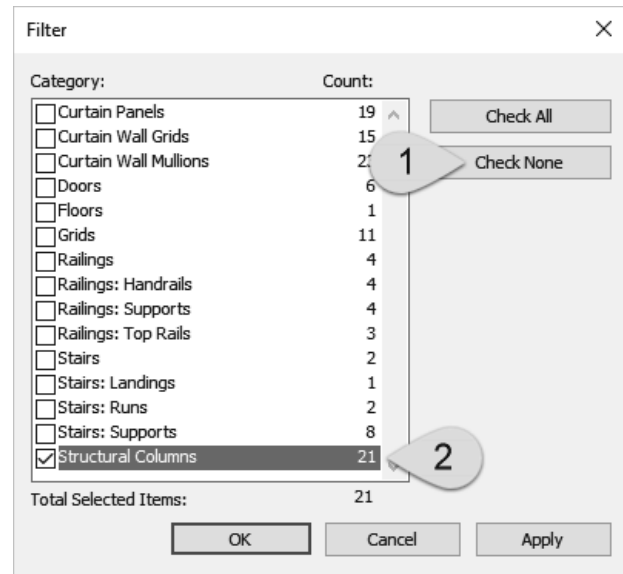

**FIGURE 8-3.9**
17. Click the **Filter** icon at the lower right corner of the window; see Figure 8-3.9.